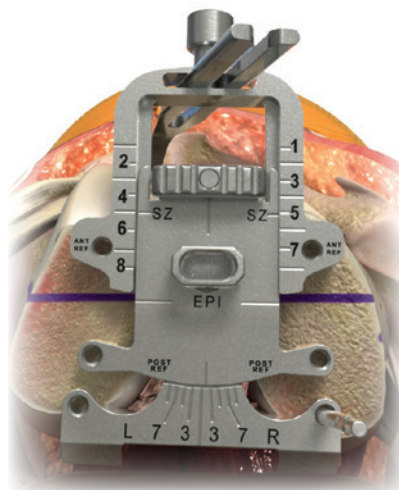

Figure 16e
- Once implant size and external rotation are determined place two pins in the appropriate anterior OR posterior referencing pin holes (not both). Remove the Femoral sizing guide by sliding it off the secured trocar pins, leaving the pins in situ (Figure 16e and 16f).